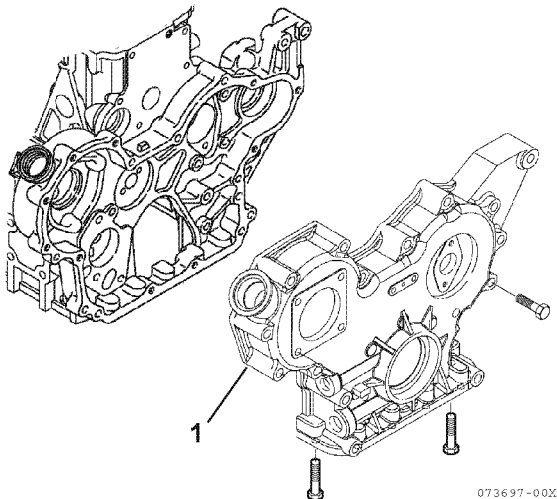

Figure 6-47
4. Remove the gear case cover (1, **Figure 6-47**).